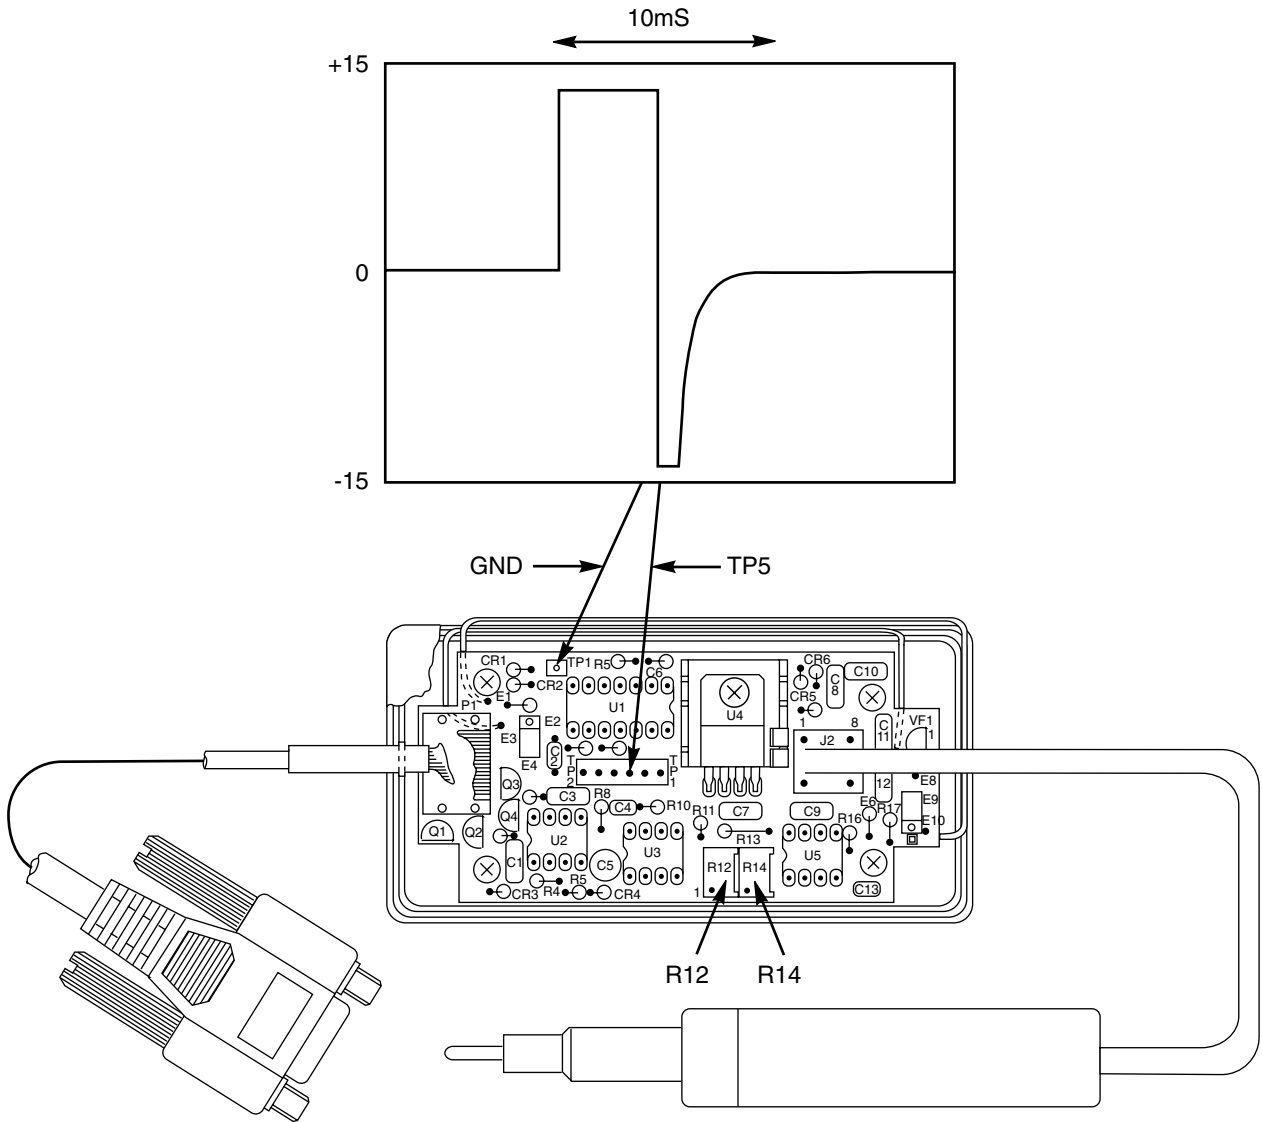

Figure 4-1 — Servo Board Alignment
2. Connect the oscilloscope leads to TP1 (ground) and TP5 on the servo board (Figure 4-1). set the oscilloscope for a vertical sensitivity of 5 volts/division and a time base of 10msec/division.
4. Turn GAIN pot (R14) fully clockwise (CW) until it stops (25 turn pot).
6. Turn (R14) counter-clockwise (CCW) until the actuator oscillates. You will also see the oscillation on the oscilloscope. Turn GAIN (R14) clockwise (CW) until the oscillation stops.
8. Adjust GAIN (R14) for a waveform similar to that shown in Figure 4-1. The square wave must be followed by a curve as shown in the figure.